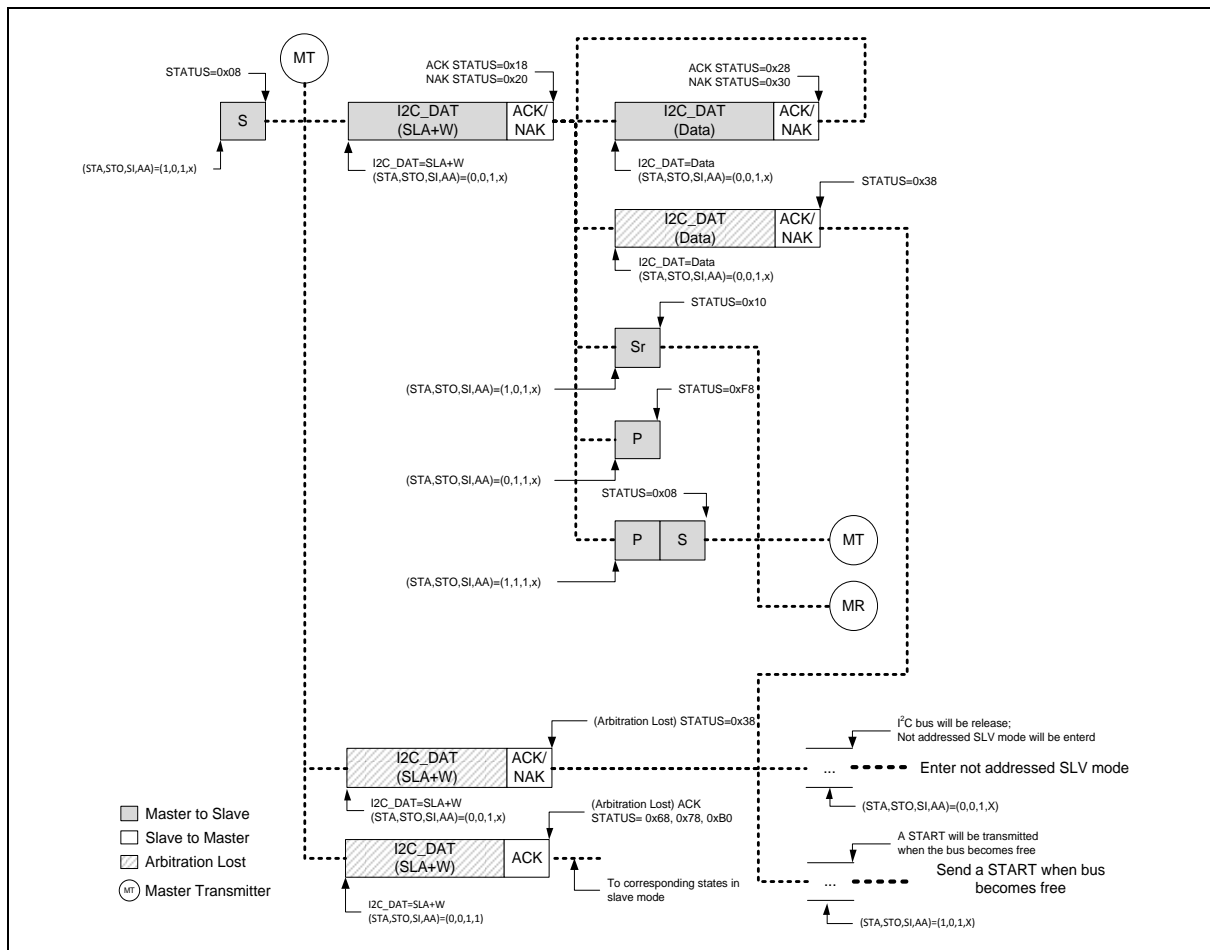
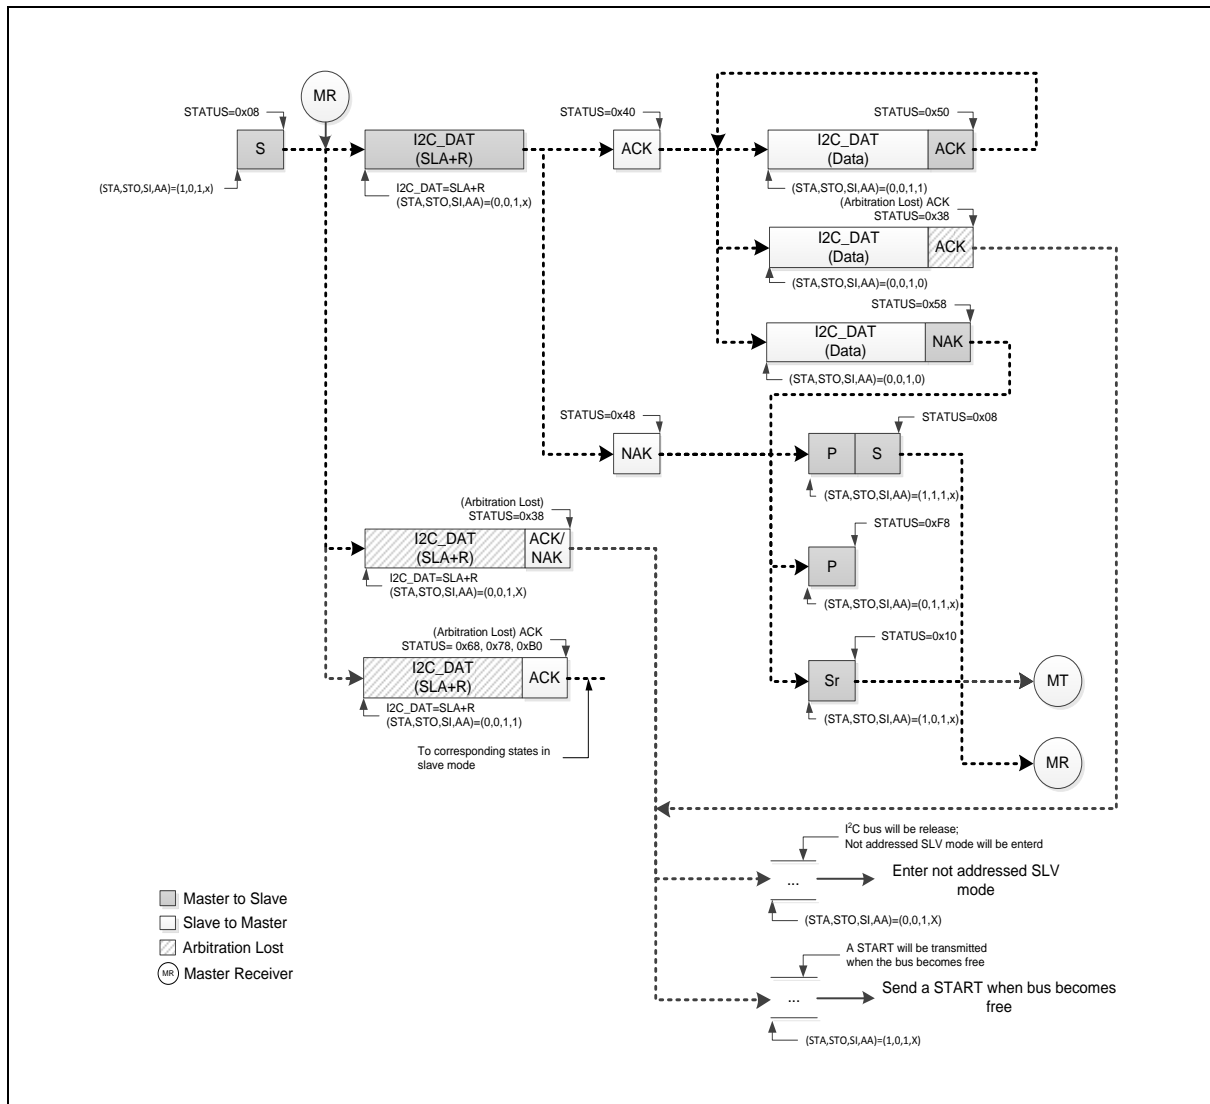

Figure 6.17-12 Master Transmitter Mode Control Flow
Figure 6.17-13 Master Receiver Mode Control Flow
In Figure 6.17-12 and Figure 6.17-13, all possible protocols for I²C master are shown. User needs to follow proper path of the flow to implement required I²C protocol.
In other words, user can send a START signal to bus and I²C will be in Master Transmitter (MT) mode (Figure 6.17-12) or Master receiver (MR) mode (Figure 6.17-13) after START signal has been sent successfully and new status code would be 0x08. Followed by START signal, user can send slave address, read/write bit, data and Repeat START, STOP to perform I²C protocol.